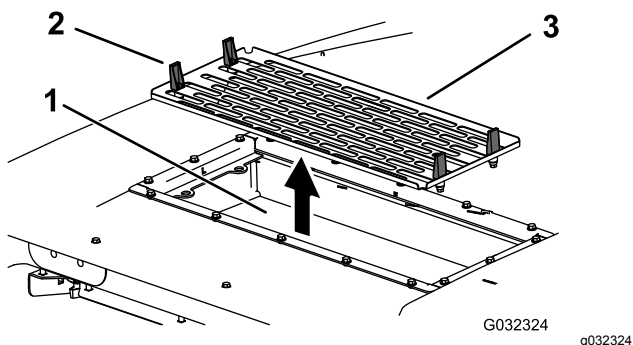

**Figure 145**
- 7. Install the air filters, screen, and fan assembly (Figure 143, Figure 145, and Figure 146).
- 8. Connect the wire for each fan (Figure 145).